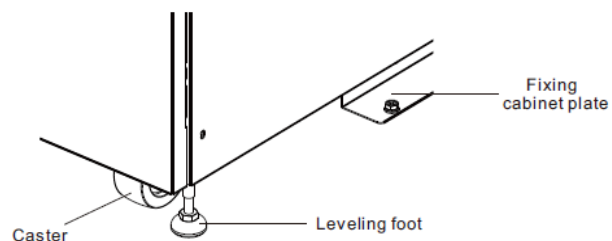

Figure 2-5
5. To fix the cabinet in position, simply rotate leveling feet clockwise and fix cabinet plates. Refer to Figure 2-5.